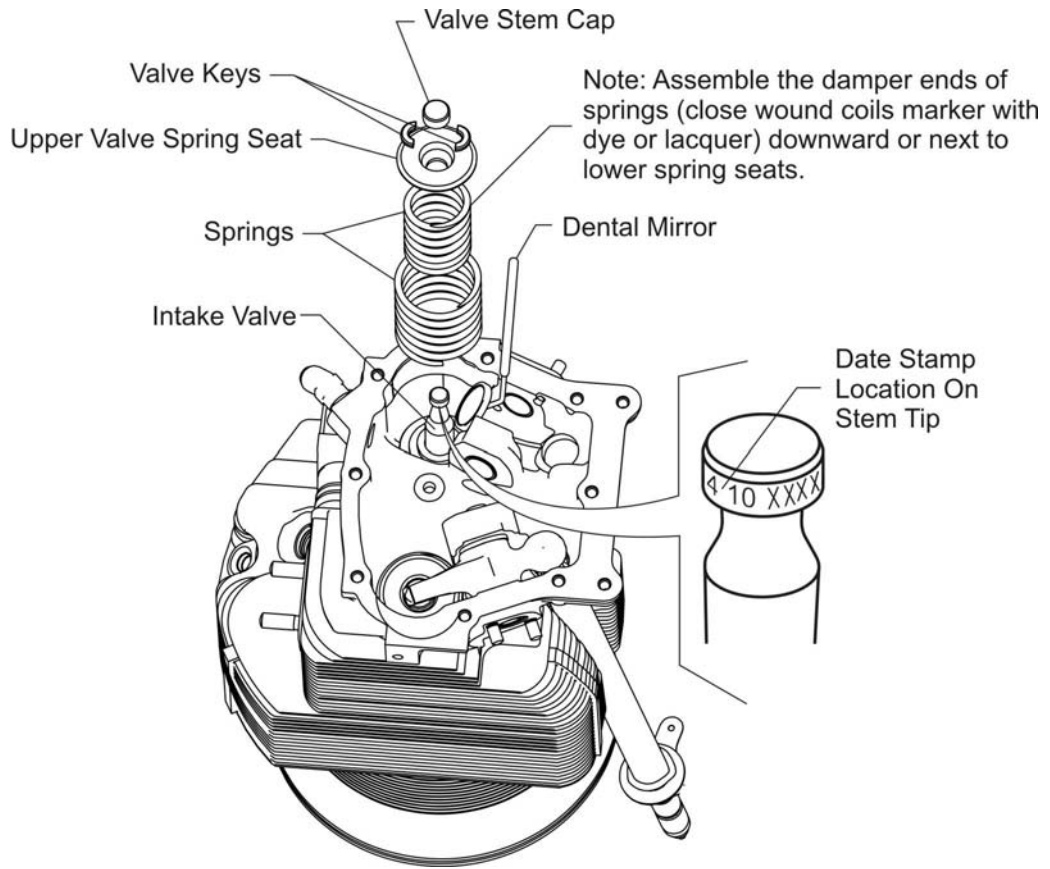

Figure 2
9. Remove the upper valve spring seat (Figure 2) and valve spring.
11. If the date stamp is 4 10 (as shown in Figure 2):